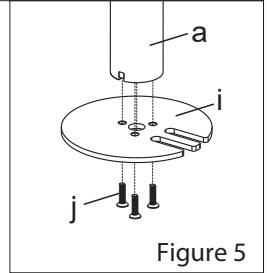

Figure 5
2. Install the Grommet Base Plate (i) to the Pole (a) using 3pcs M5x14 Bolts (j), and tighten using the Allen Key (y), see Figure 5.